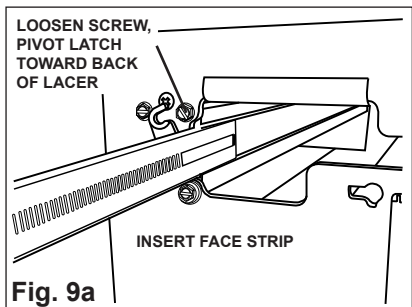

Fig. 9a
- a. Loosen the top screw securing the Face Strip Retaining Latch and pivot the latch towards the back of the lacer. See Fig. 9a.